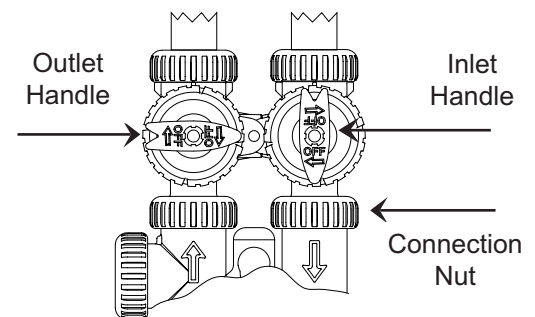

figure 3
12. Carefully turn water on to the system, open just the inlet valve handle on the bypass. *see figure 3*
see figure 3